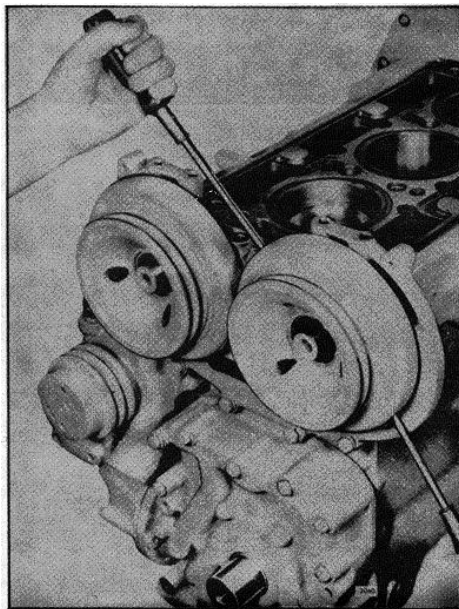

Fig. 1 - Removing Front Balance Weight (Pulley Type)
2. Force the balance weight off the end of each shaft, using two screw drivers or pry bars between the balance weight and the upper front cover as shown in Fig. 1.
3. Wedge a clean rag between the gears. Refer to Fig. 1 of Section 1.7.2 and tighten the gear retaining nuts to 300-325 lb-ft torque. Then tighten the front balance weight retaining nuts to 300-325 lb-ft torque. Remove the rag from the gears.